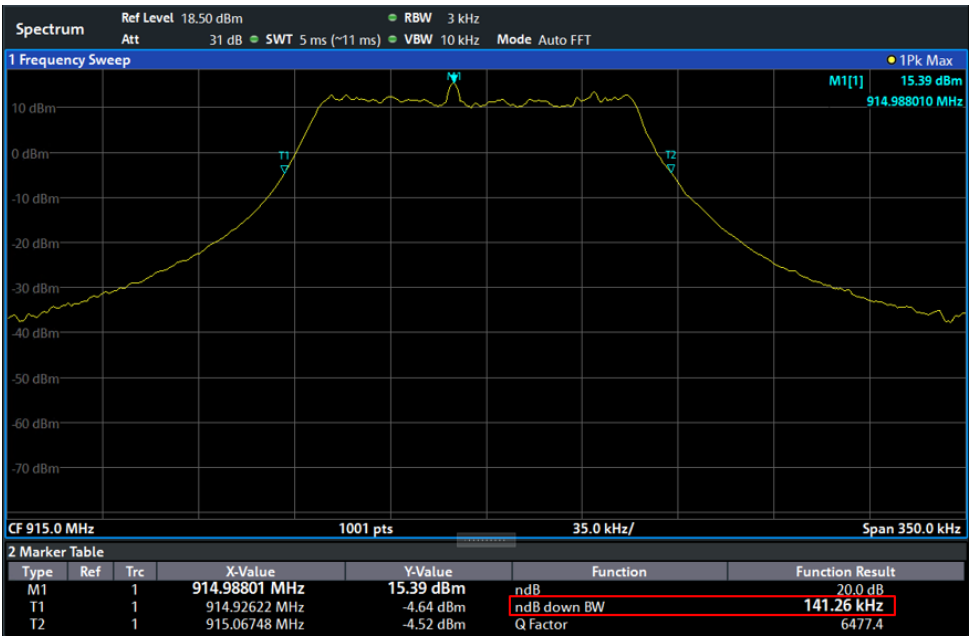

Figure 2-17: Measurement of 20 dB bandwidth, LoRa signal bandwidth 125 kHz, SF = 7
- 31. Press the *Mkr* key and select *Select Marker Function*. In the *Markers* tab, select *n dB down* and enter 20 dB in the *Value* entry field. Wait until the trace is stable. If necessary, use the measured value for the 20 dB bandwidth (*n dB down BW*) to adjust the span and resolution bandwidth in line with the conditions named above. Wait until the trace has stabilized. Figure 2-17 shows the result of the measurement.